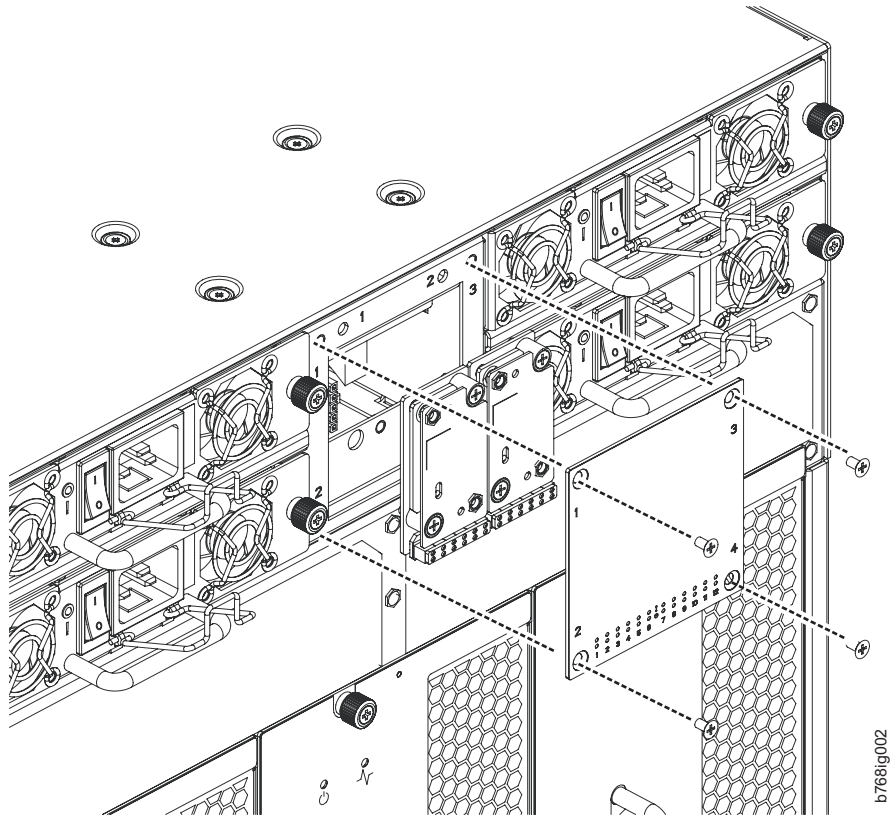

Figure 39. WWN bezel and card removal and installation
6. Remove the four screws from the WWN bezel (see Figure 39 on page 94). Pull the bezel away from chassis and set it aside. The WWN cards are visible.
3. Install the WWN bezel. Orient the bezel on the chassis (see Figure 39). Insert and tighten the four screws.